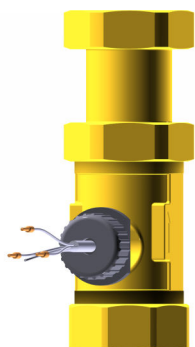

Fig. 35: Flow rate sensor
- 6.** ➤ Install a new flow rate sensor (Fig. 35).